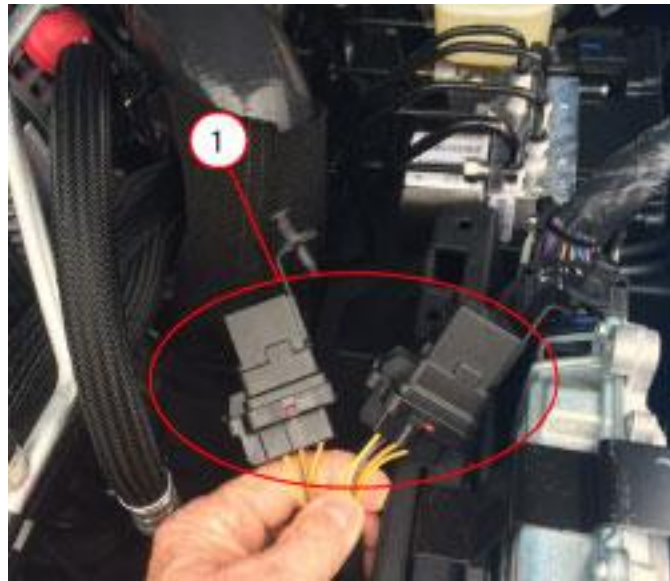

Fig. 2 Connect Relays to Loose Wiring Connector
2. Install the relays to the loose wiring connectors (Fig. 2).